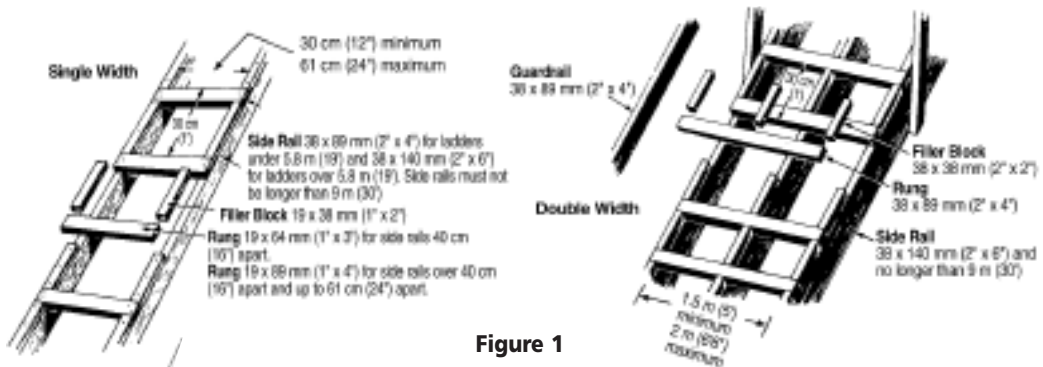

Figure 1
- Wooden Ladders:** Must be placed on a firm footing and be securely fastened in position and be inspected daily. If defective they must be repaired immediately or taken out of service and removed from job site (see figure 1).